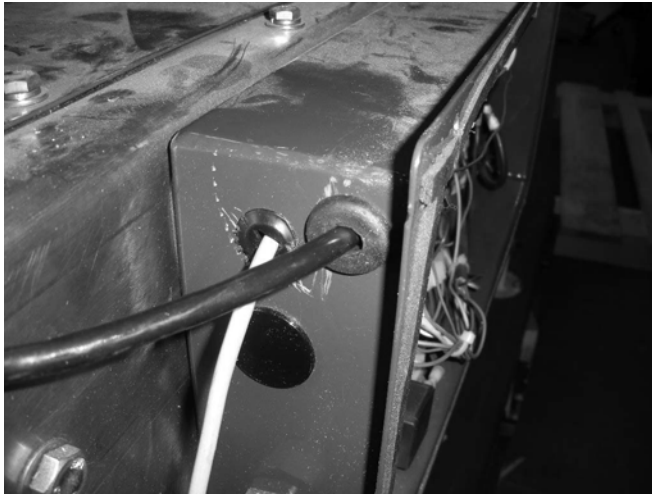

FIGURE 10: PULL BOX - GROMMET AND STOW-LOCK CABLE
15. Attach Grommet (P/N 26661) through 5/8" drill hole then run Stow-Lock Harness (P/N 20106) through Grommet (P/N 26661) and into Pull Box as shown in **Figure 10**.